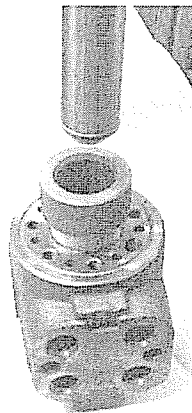

Figure 18
11. Align plunger with sleeve (figure 18).